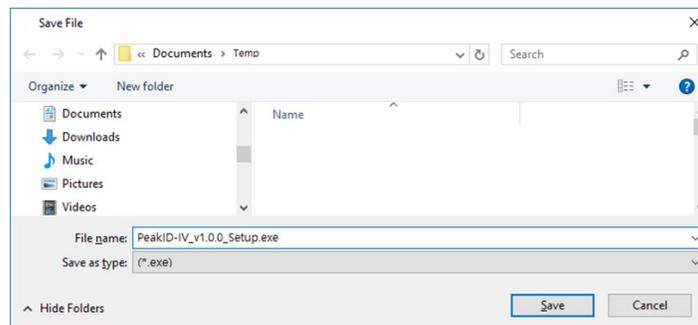

Figure 7.1.3. Save PeakID Installer
- Save the PeakID IV Installer on the PC (Figure 7.1.3).